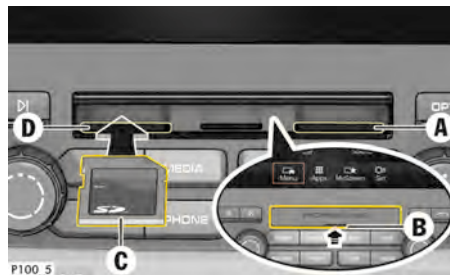

Fig. 130: SD card slot
1. Use a finger nail to fold up the cover over the slot **B** (Fig. 130).
2. Push SD card **C** (Fig. 130) with the printing upward into SD card reader (**A** (Fig. 130)) or (**D** (Fig. 130)) until it engages.